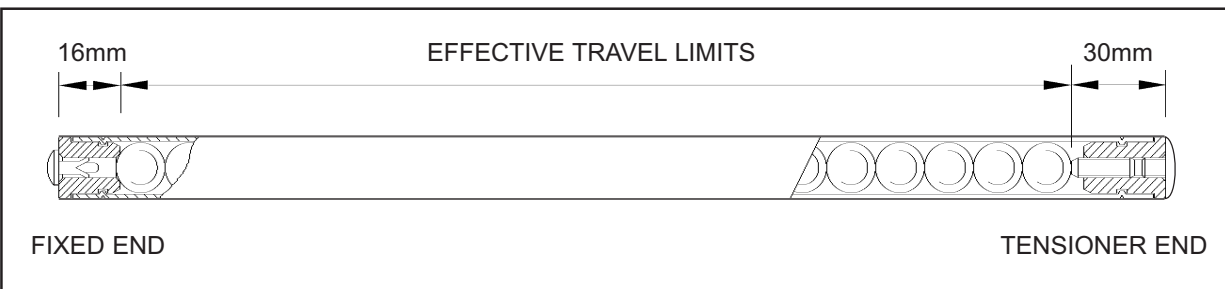

Figure 6.1 - SHG Scale
- (A) Erroneous readings will occur if the Reader Head is allowed to travel beyond the Effective Travel Limits. (Refer to Figure 6.1)
- (B) The pre-load on the balls are factory set via the set screw at the tensioner end. Do not tamper with or adjust the set screw as this will alter the calibration and accuracy specification of the scale. (Refer to Figure 6.1)